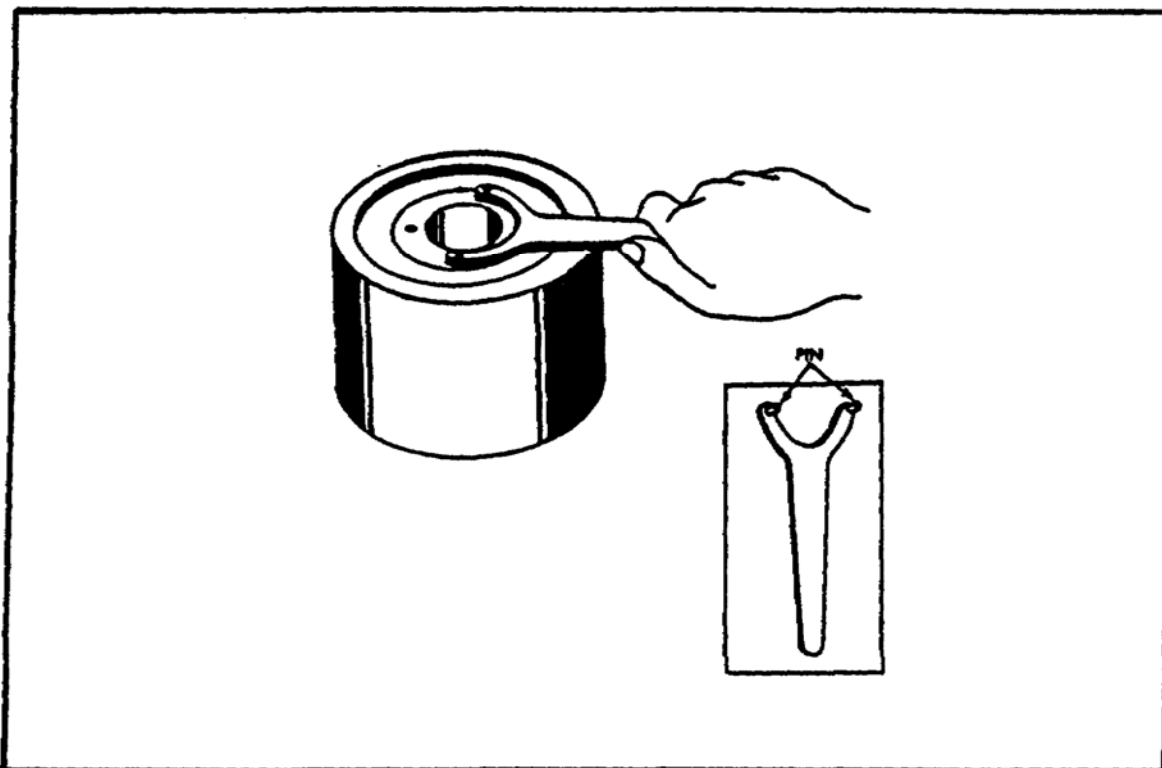
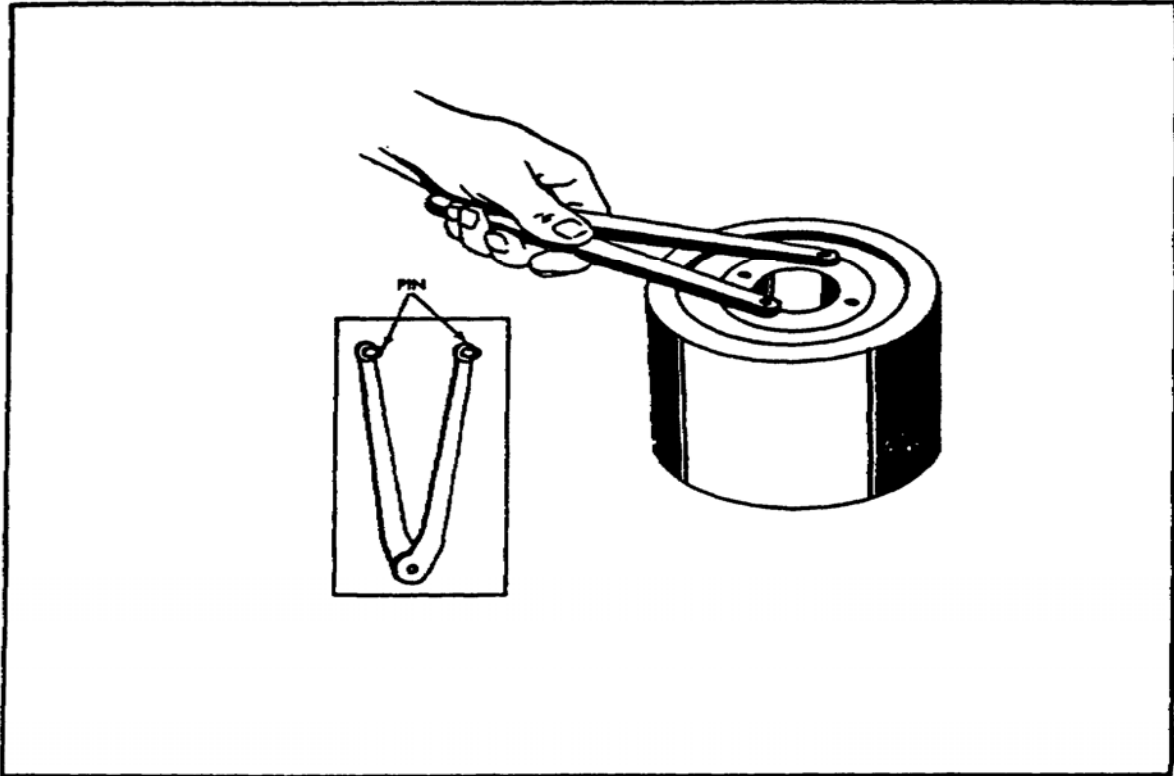

FIGURE 29. USING A PIN FACE SPANNER WRENCH.
FIGURE 30. USING ADJUSTABLE SPANNER WRENCH.
(9) *Spanner Wrenches*. When using a pin-face spanner wrench (figure 29), insert the pins or lugs into the pin holes of the part. Keep the pin face of the wrench flush with the part surface and turn the wrench. Exert enough force against the wrench so that the pins do not jump out of the holes. Hose coupling spanner wrenches are shaped so that they fit around the coupling with the pin or lug at right angles to the handle. Insert the pin in the hose coupling pin hole. Pull or push the handle in the direction opposite the hook of the spanner wrench. Make certain the pin fits the hole and that the force is applied with the handle perpendicular to the work. Use of an adjustable spanner wrench is shown in figure 30 .